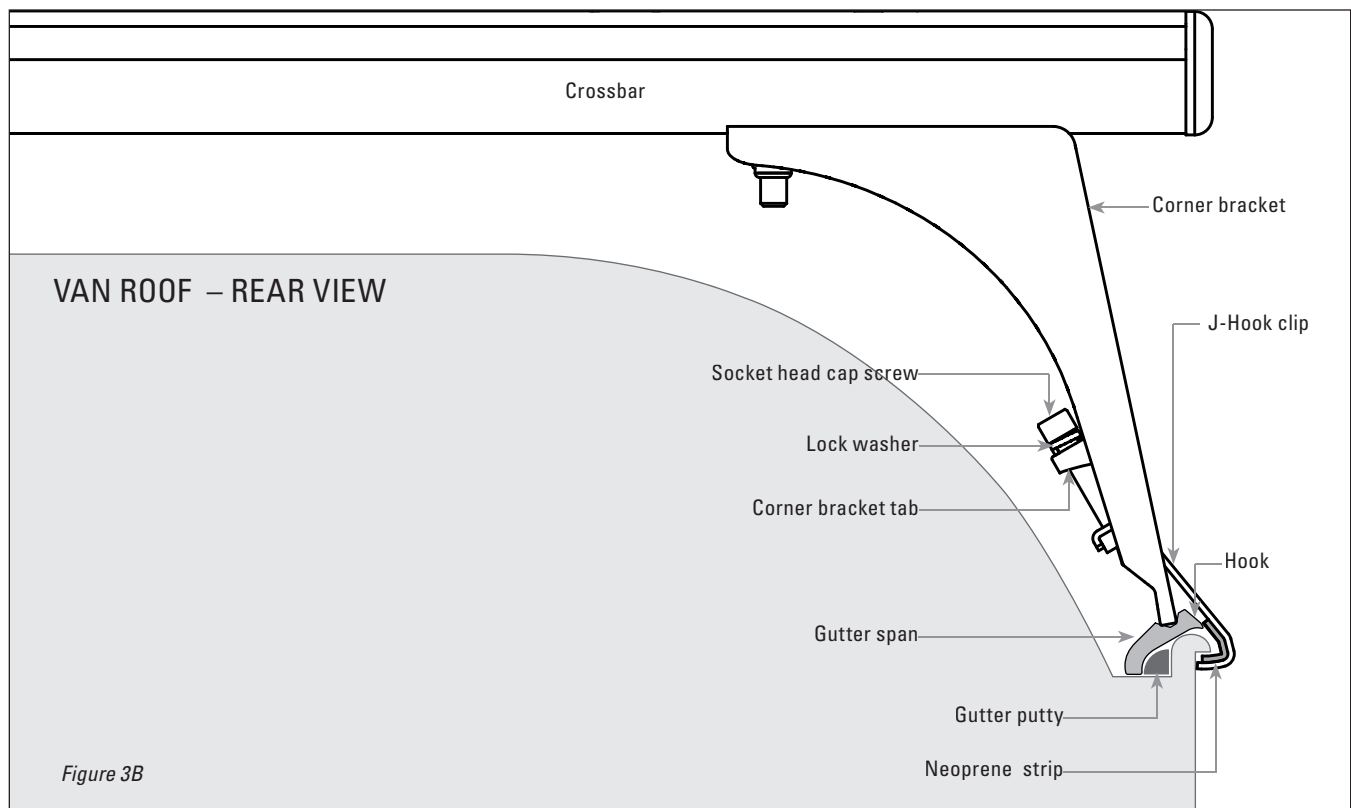

Figure 3B
9. Slide 2 Gutter Spans under each Corner Bracket so that they line up under the slots as shown, with the "V" Groove facing up. The "Hook" of the Gutter span must engage the upper edge of the gutter, with the opposite end positioned in the middle of the gutter groove (see Fig 3B).
10. The lower edge of each Corner Bracket fits snugly into the top of the Gutter Span. Place the J-Hooks around the outside edge of rain gutter (see Fig 3B).